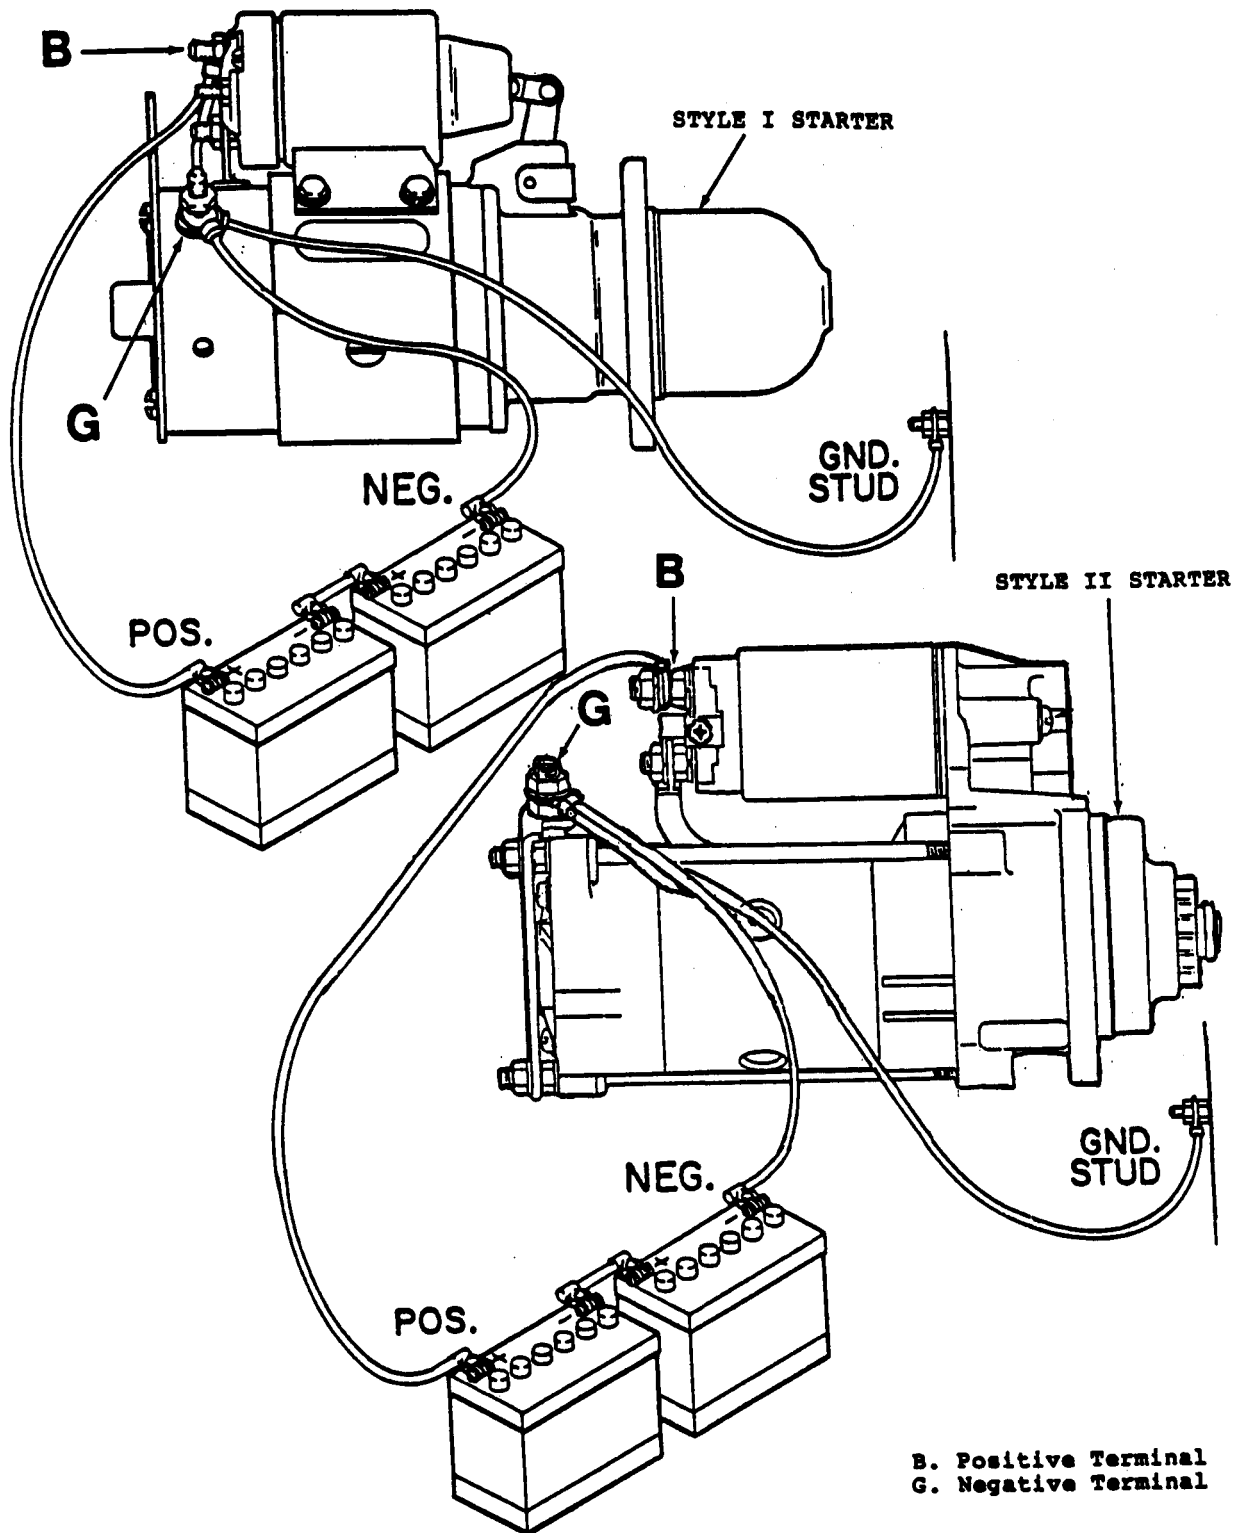

Figure 4-16. Installing Battery Cables.
a. Battery Cables (Including Jumper Cable) (see figure 4-16). On ASK equipped generators, remove BATTERIES access door.
(1) Test. Test battery cable for continuity. Replace any cable that does not show continuity.
(2) Remove. Remove negative battery cable from negative (-) battery terminal. Remove positive (+) battery cable from positive battery terminal.
(3) Replace. Attach jumper cable between negative (-) terminal of one battery and positive (+) terminal of the other battery. Attach positive battery cable to the "B" Terminal stud on starter solenoid. Attach negative battery cable (-) to the ground terminal "G" of the starter. See figure 4-16. Attach positive cable (+) to positive terminal on one battery and negative cable (-) to negative terminal on the other battery. Tighten all terminal connectors securely.